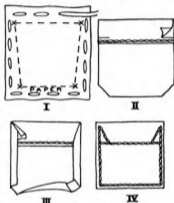

FIGURE 164
*Patch* (Figure 164). — The size of a patch pocket is governed by its location on the garment. The pocket may be square or any desired shape and may be cut on the bias if a unique shape is desired.